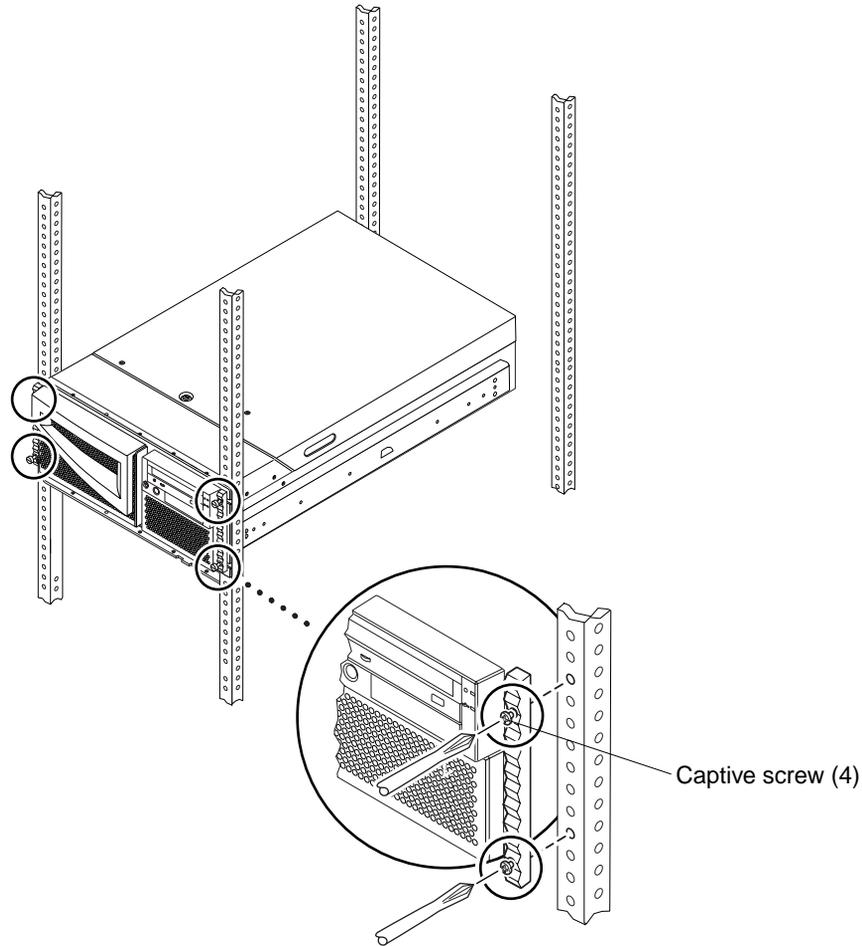

FIGURE 9-22 Tightening the Captive Screws Securing the File Server or Compute Engine to the Rails
3. Tighten the four captive screws securing the file server or compute engine to the left and right vertical rails at the front of the rack (FIGURE 9-22).